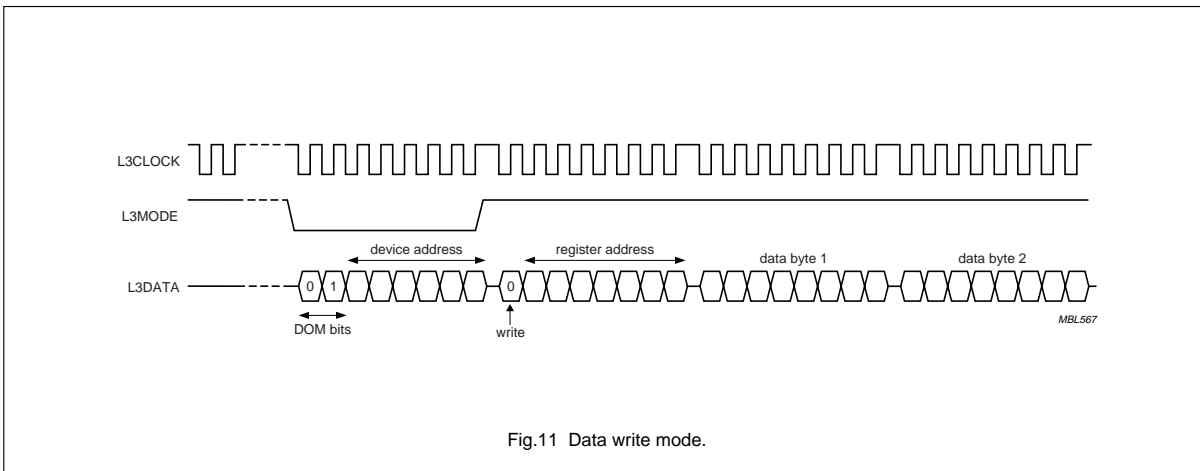

Fig.11 Data write mode.
The address mode is used to select a device for a subsequent data transfer. The address mode is characterized by signal L3MODE = LOW and a burst of 8 pulses for signal L3CLOCK, accompanied by 8 bits (see Fig.11).
1. Addressing for write data: bit 0 is logic 0 indicating a write action to the destination register, followed by bits 1 to 7 indicating the register address (see Fig.11)
The data write mode is explained in the signal diagram of Fig.11. For writing data to a device, 4 bytes must be sent (see Table 11):